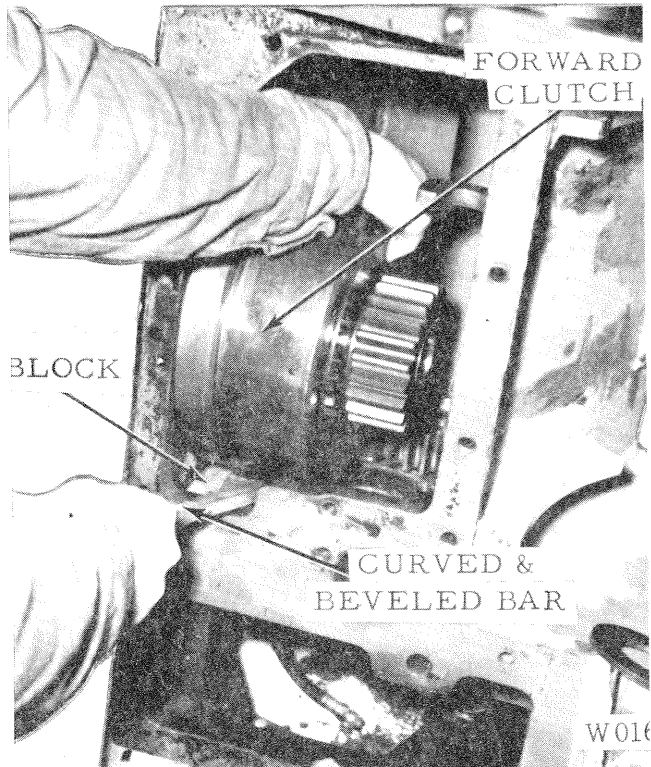

Figure 16
10. Remove the clutch assemblies, spacers, bevel gear and the tapered bearing from the case and side frame. Tap the ball bearing and carrier assembly out of its bore in the case and side frame. When removing the forward power control clutch, push it back into the case and place a block of wood (2 x 4) in front of it. Roll the clutch upon the block and pry it out of the case with a bar. Fig. 16.